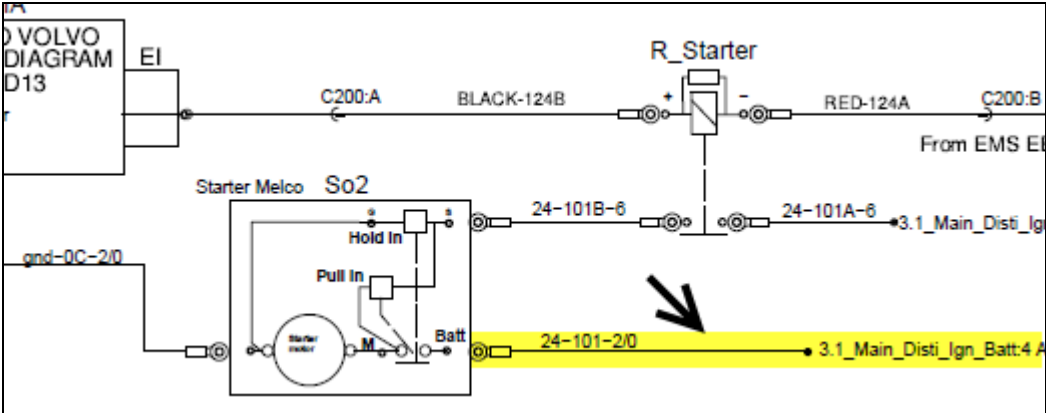
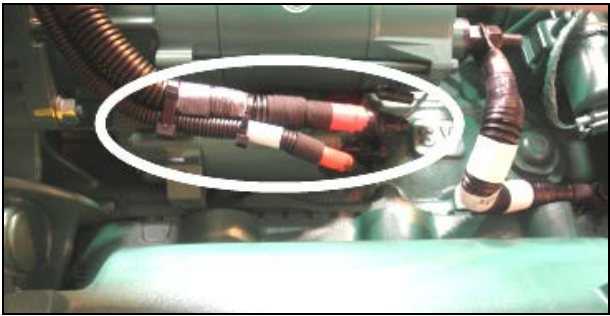

Figure 4
Figure 5: starter cables
- On the **starter positive (+) stud terminals** and from there, up to Bussman junction block in the electrical compartment (Figure 4, Figure 5).